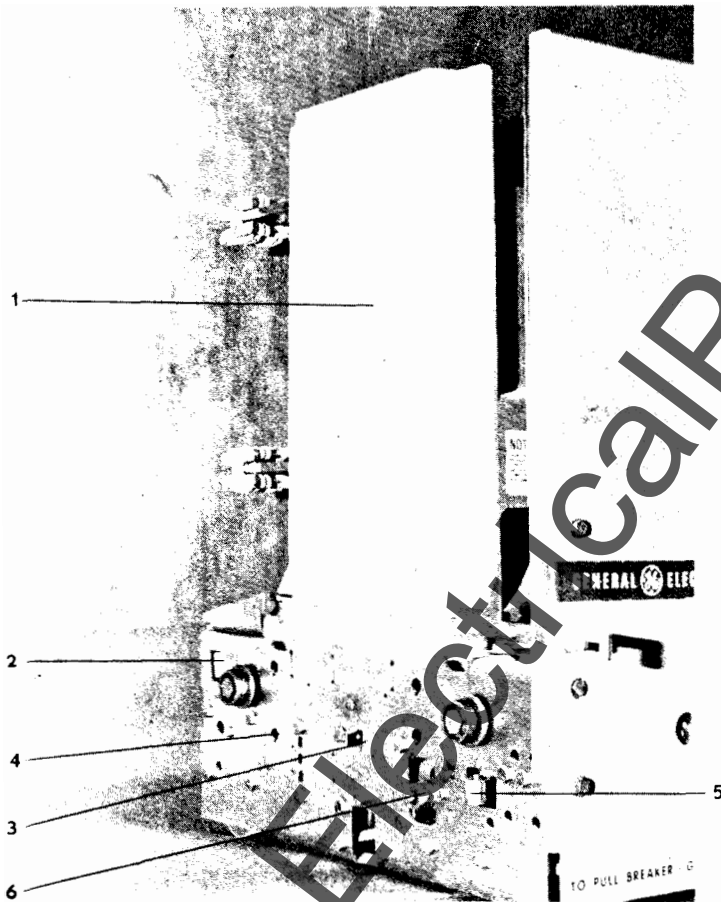

Fig. 9. Power/Vac* Breaker — Left Side View
The function of the negative trip interlock, (5) Fig. 9, is to disengage the trip latch from the trip latch roller thereby preventing a closing operation. The interlock also opens the latch checking switch (52LCS) in the closing circuit thereby removing the close circuit power. The negative interlock is in operation while the breaker is moving between the "Disconnect/Test" position and the "Connect" position. A redundant Negative trip interlock, (6) Fig. 9, is a backup to the NEGATIVE TRIP INTERLOCK and provides the same function except it operates only near the connect position.
The positive interlock, (3) Fig. 9, operates to prevent the racking of a breaker that is closed. A linkage connected to the horizontal connecting bar extends a detent bar out from the side of the mechanism frame when it is in the closed position. If the closed breaker is in the "Connect" or "Disconnect/Test" position in the metalclad the detent bar locks into the racking mechanism to prevent access to the hex section of the jack screw. The positive interlock also prevents the lift truck from picking up a closed breaker.